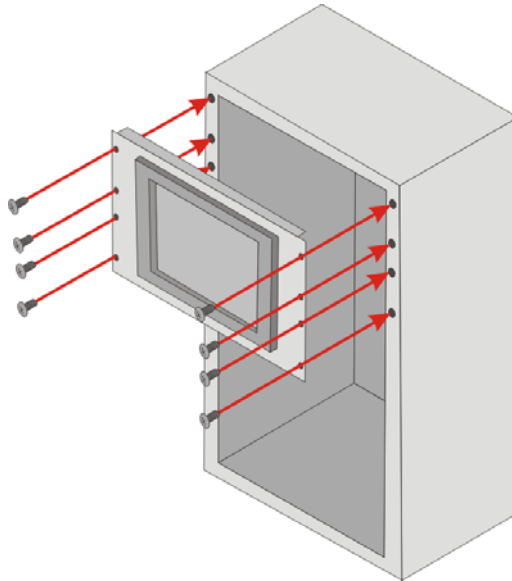

**Figure 3-35: Secure the Mounting Brackets**
**Step 2:** Secure the rack/cabinet bracket to the monitor. To do this, secure the 10 mounting brackets to the corresponding screw holes on the rear of the monitor using the provided retention screws (**Figure 3-35**).